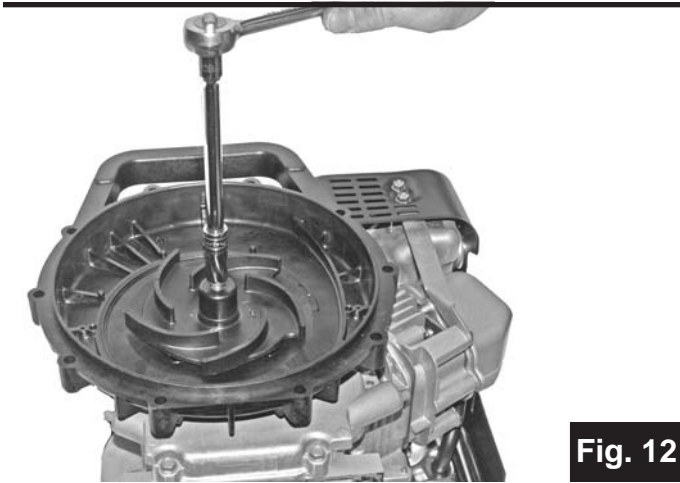

Fig. 12
8) Use the fine threaded $\frac{3}{4}$ "/19mm screw (Ref. #16) to fasten the impeller to the shaft (Fig. 12) Check that a small o-ring is under the screw head (Ref. #8). Tighten the screw as much as possible by hand with a large, flat head, wide blade screwdriver or 7/16" socket. Hold the impeller with your free hand to keep the impeller from turning while tightening the screw.